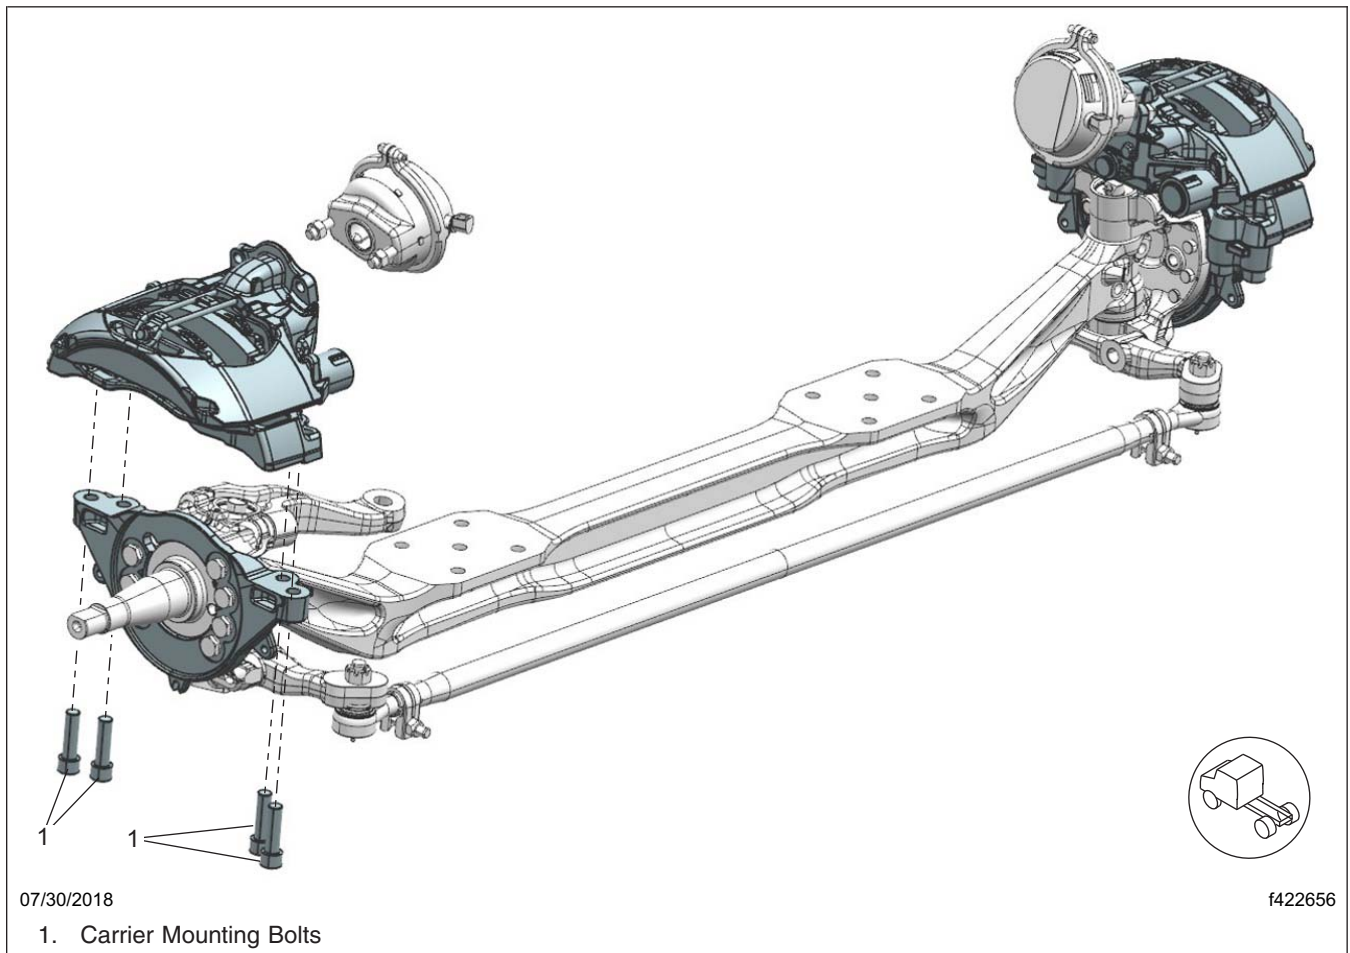
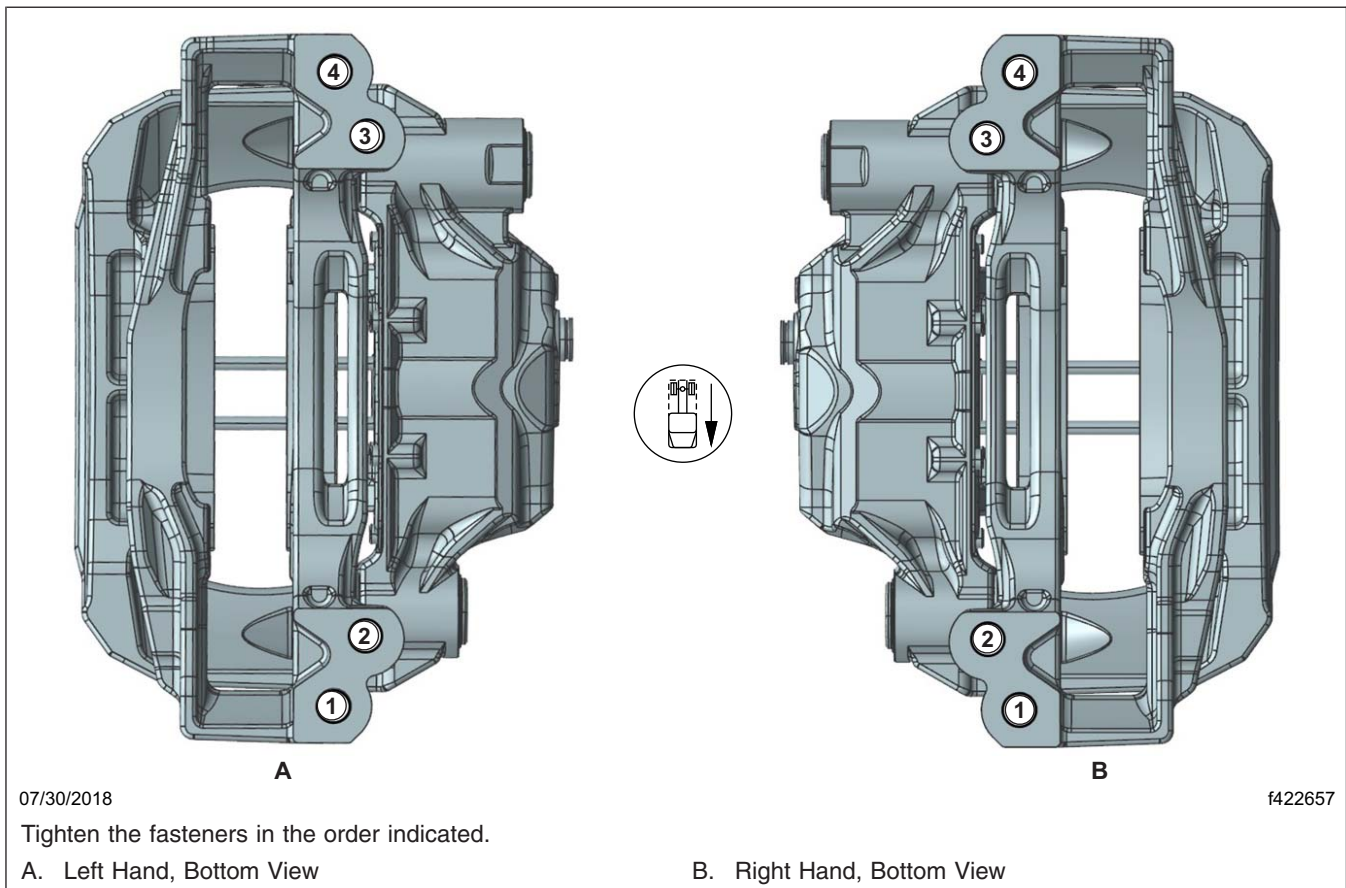

Fig. 10, Wabco Maxxus Radial Mounted Calipers
Fig. 11, Wabco Maxxus Radial Mounted Caliper Tightening Pattern
9. Align each caliper/carrier assembly with the rotor by pushing the fixed pin side of the caliper against the shelf on the torque plate, then install the caliper/carrier assembly using new caliper mounting bolts. See Fig. 10 and Fig. 11.
10. Tighten the carrier mounting bolts in two steps, using the pattern shown in Fig. 11.